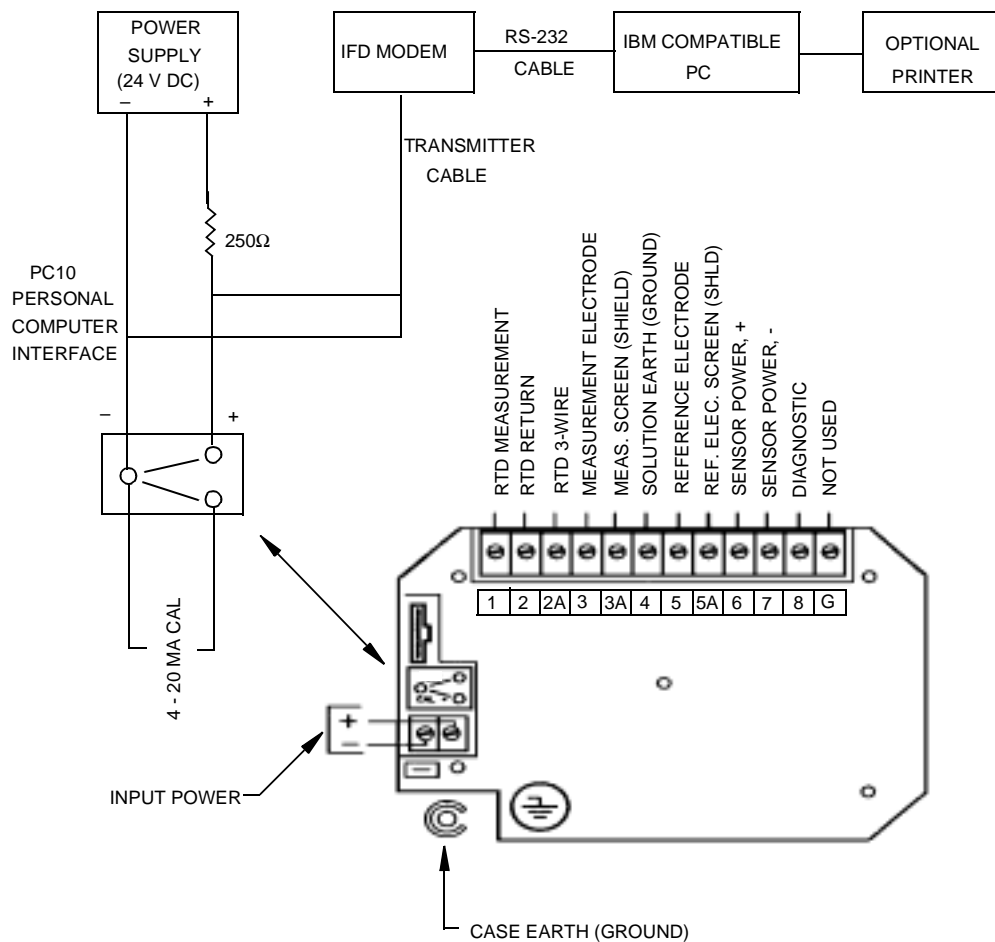

Figure 7. Wiring
3. Bring the wires from your two-wire input power in the left opening and connect to the Input Power terminals shown in Figure 7. Bring the sensor cable in the right opening and, for Foxboro 871PH, 871A, and AS100 series sensors, connect by number to the appropriate terminals near the top of the case per Figure 7.